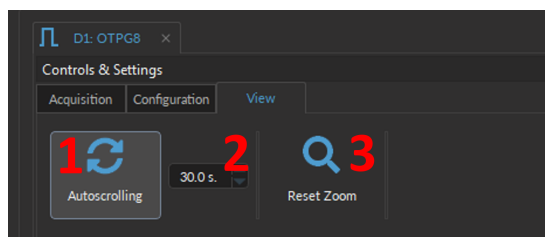

Figure 10.8: View Tab
The different buttons and fields of the **View Tab** are shown in Figure 10.8 and sets the graph zoom to the value of choice, specified in the text-box.
1. The **Autoscrolling** button (Fig. 10.8, 1), when enabled, makes the graphs scroll as new data appears. The duration (in seconds) kept on display is controlled by the field beside the button.
2. The **Zoom range** (Fig. 10.8, 2) sets the graph zoom to the value of choice, specified in the text box.
3. The **Reset Zoom** button (Fig. 10.8, 3) resets the horizontal axis of all graphs displayed in the **Acquisition View** to the duration chosen in the **Zoom range** field.